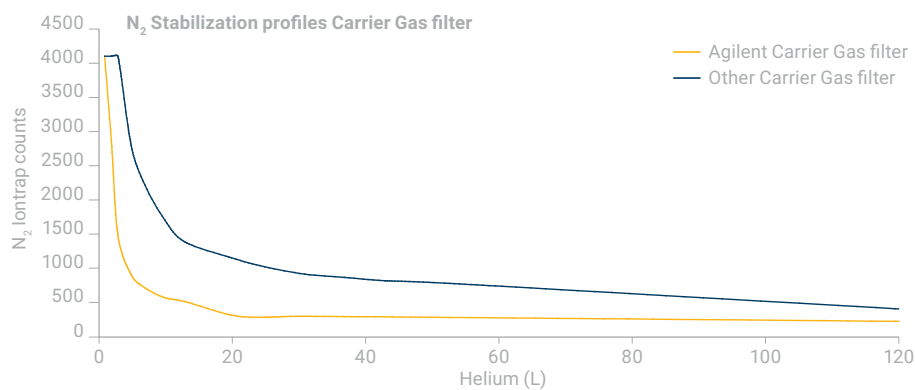

Figure 1. Fast stabilization rate (the N₂ mass measured by mass spectrometry) of a GC/MS after replacement of the filter.
- **Carrier Gas Filter** – provides faster stabilization times to reduce gas consumption (see Figure 1).